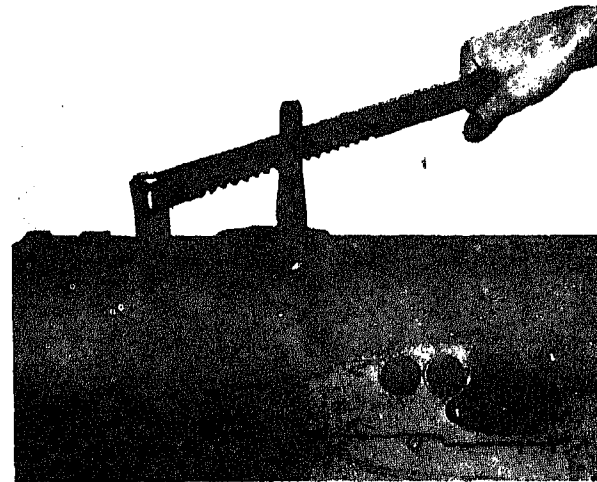

Fig. 2-1-1. Compressing valve springs
5. Compress one valve spring at a time. Fig. 2-1-1. Tap valve head lightly to loosen; then remove half collets.